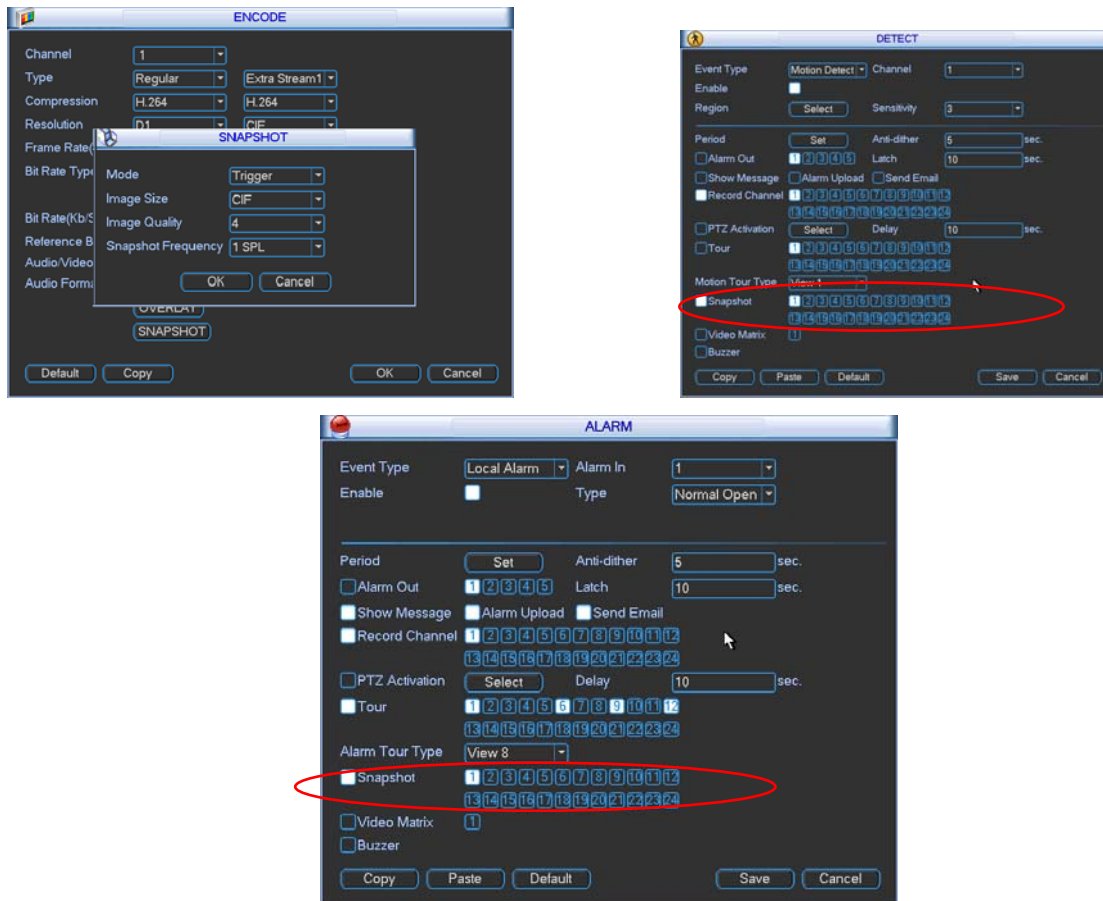

Figure 4-20
- In Encode interface, click snapshot button to input snapshot mode, size, quality and frequency. See the interface on the left of Figure 4-20.
- In Detect interface please enable snapshot function for specified channels (interface in the middle of Figure 4-20). Or in alarm interface (interface on the right of Figure 4-20) please enable snapshot function for specified channels.
Please refer to the following figure for detailed information. See Figure 4-20.